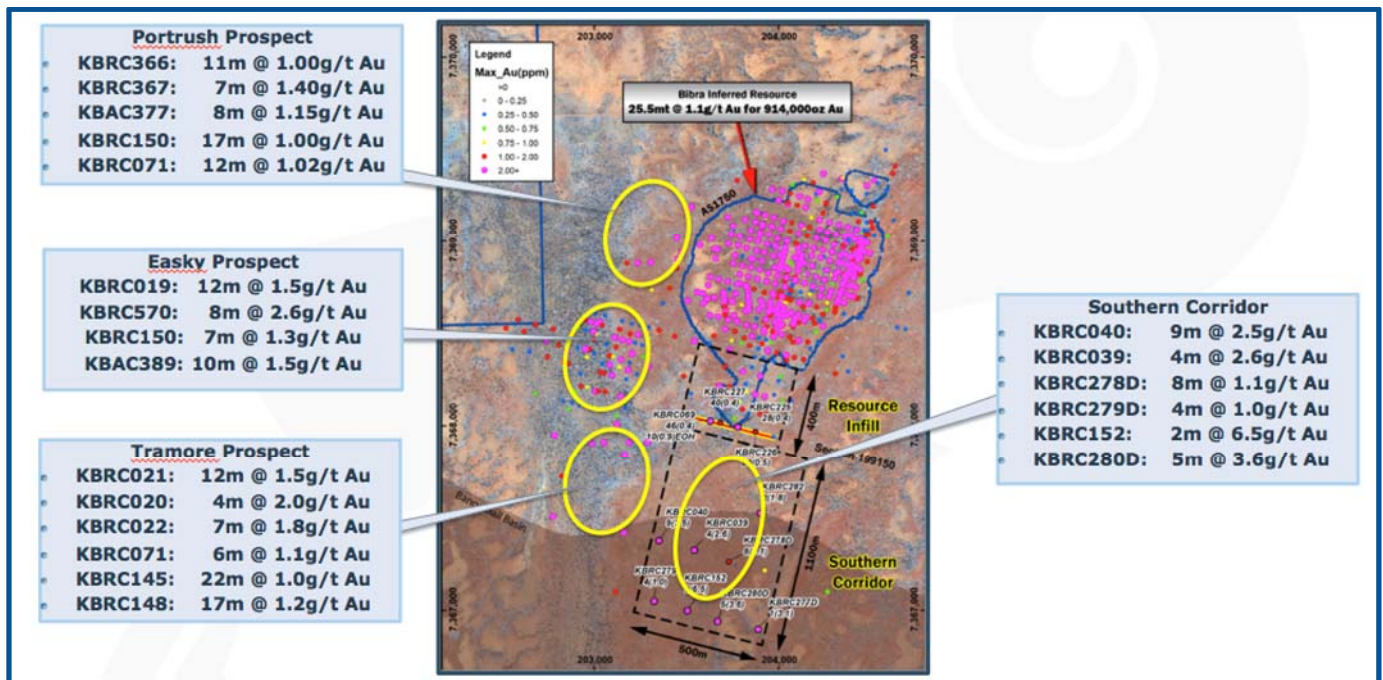

Figure 2: Bibra Resource Expansion Targets
The Southern Corridor is located immediately along strike to the south of the Bibra Gold Deposit, and is within 400 metres of the planned open pit development. This area is not currently part of the Mineral Resource inventory (see Figures 2 and 3).
- The Southern Corridor is the second of a series of resource expansion targets identified within 500m of the main Bibra Resource to be tested by Capricorn Metals (Figure 2).